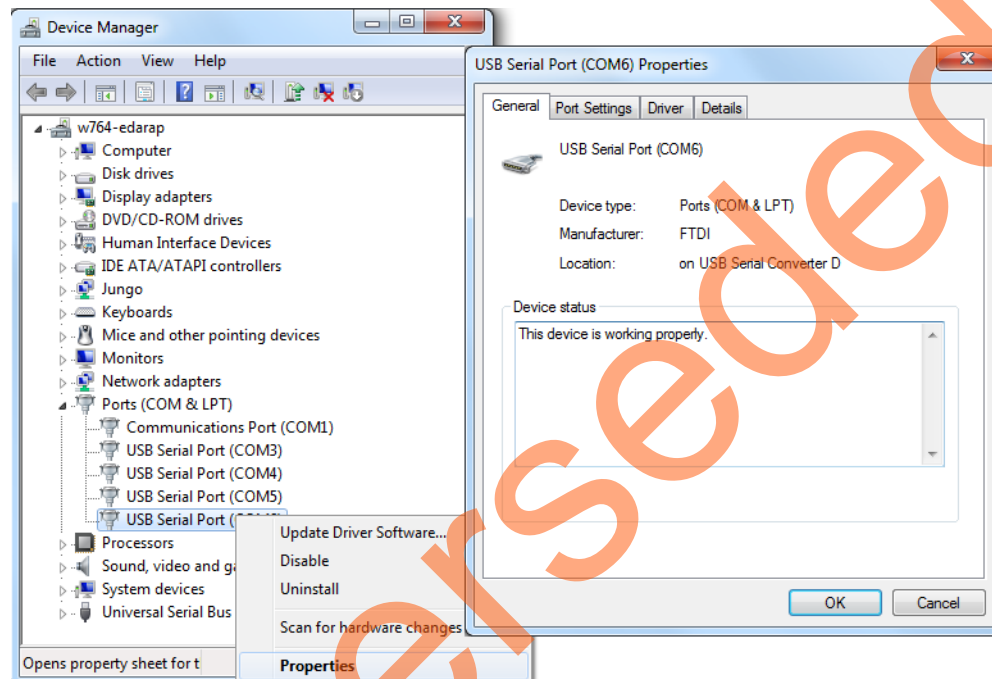

Figure 26 • Device Manager Window
2. Connect the host PC to the J18 connector provided on the SmartFusion2 Security Evaluation Kit using the USB min-B cable. Ensure that the USB to UART bridge drivers are automatically detected (can be verified in the Device Manager as shown in Figure 26).
Note: Copy the COM port number for serial port configuration. Ensure that the COM port location is specified as **on USB Serial Converter D**, as shown in Figure 26.